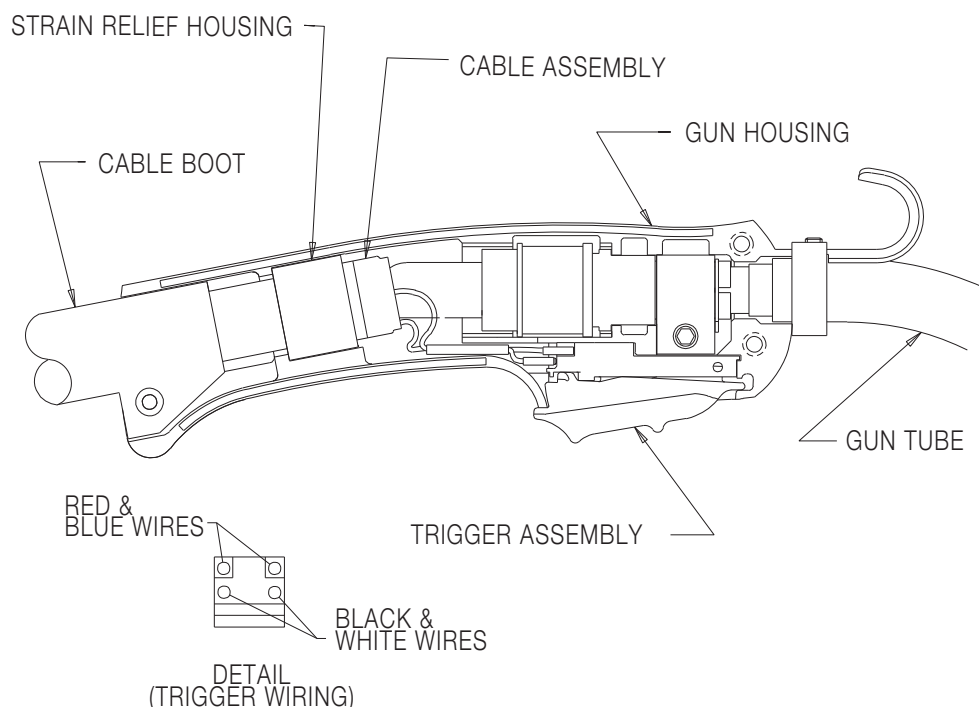

Figure E.4
Pull the cut-off lead terminals off the trigger assembly and connect the replacement control lead terminals. (See Figure E.4).
- k) Assemble cable in left side of gun handle. Assemble trigger into the proper handle cavity. (For K1722 also assemble the rocker switch in the groves provided in the handle.) Assemble right side of gun handle and tighten the screws that hold the handle together. (See Figures E.4 and E.5).